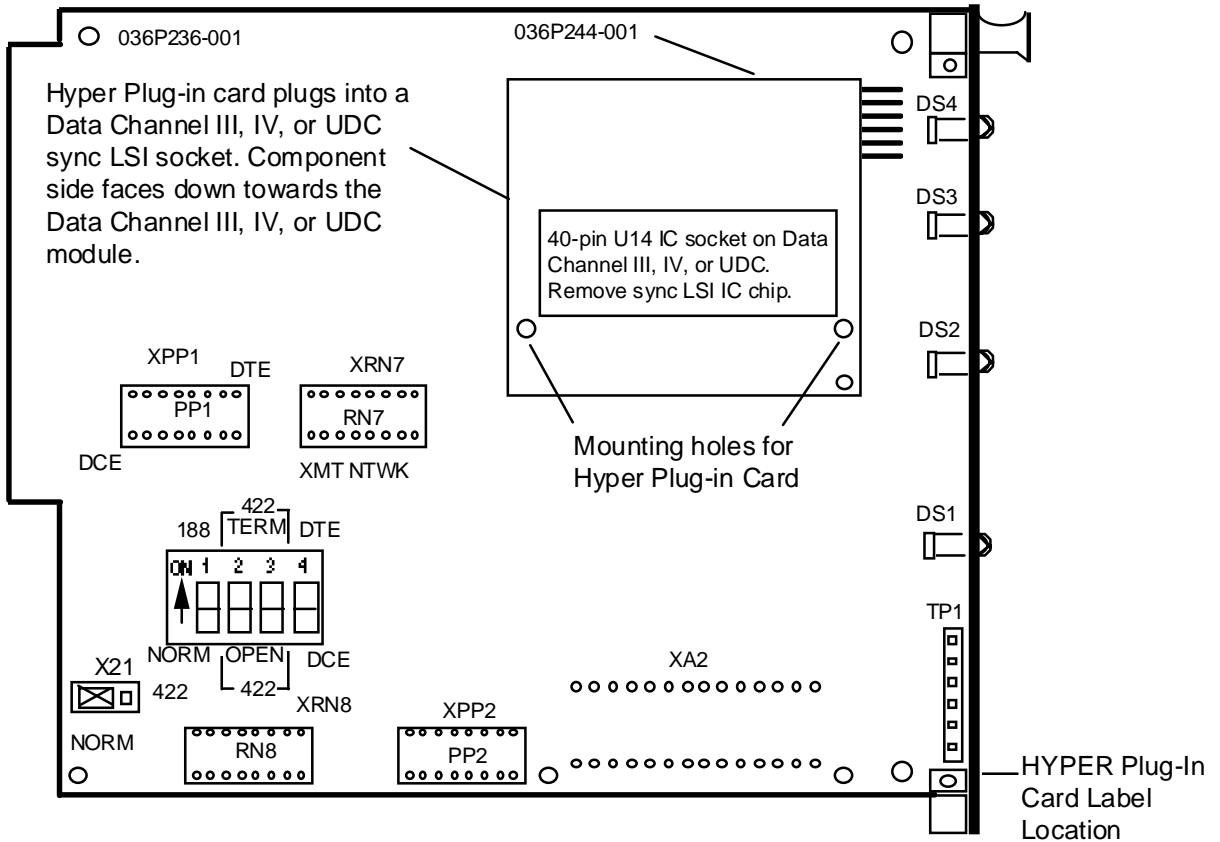

Figure 4-38 Data Channel Module with Hyper Plug-In Card Mounted
1. Remove IC chip U14 (40-pin sync LSI) from its socket on the Data III Channel, Data IV Channel or Universal Data Channel Module. See *Figure 4-38* for location of the sync LSI chip. Store the sync LSI chip in conductive foam for future use.